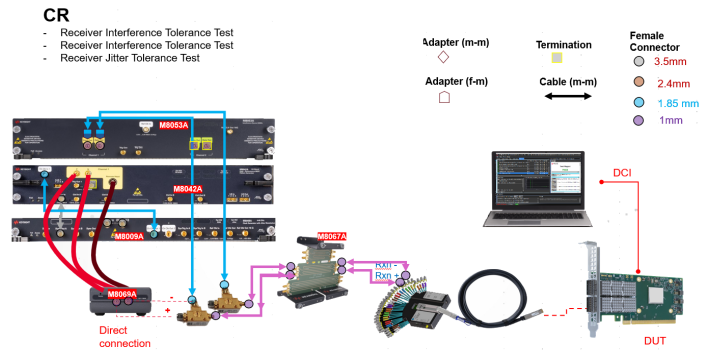
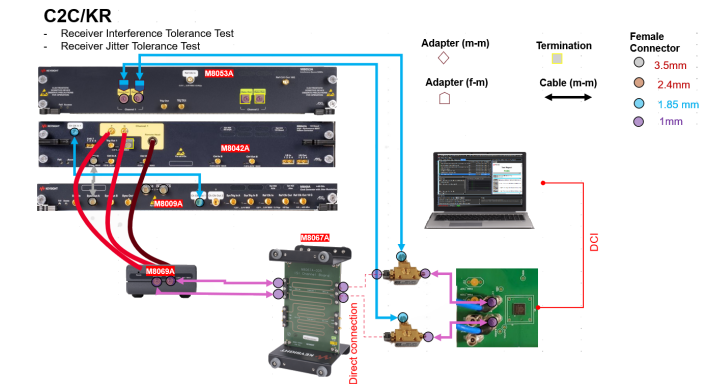

Figure 33 Connection diagram for CR Host Input Rx Interference and Jitter Tolerance Test
Figure 34 Connection diagram for KR Rx Interference and Jitter Tolerance Test
- 9 The receiver is tested according to the setup displayed in Figure 33. Noise is injected for the interference test only. The BER is retrieved from the DUT internal error checkers using the M8070B DCI interface. See section DUT Control Interface / 159.
- 4 The system configuration for receiver test is displayed in Figure 33 and Figure 34 for CR and KR, respectively.